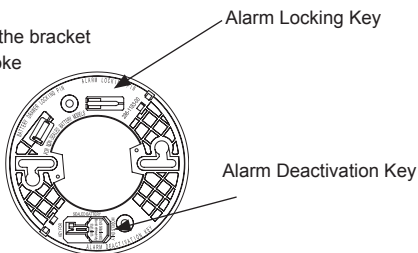

FIGURE 2
2. The alarm deactivation key is located in the mounting bracket of the alarm. See Figure 2